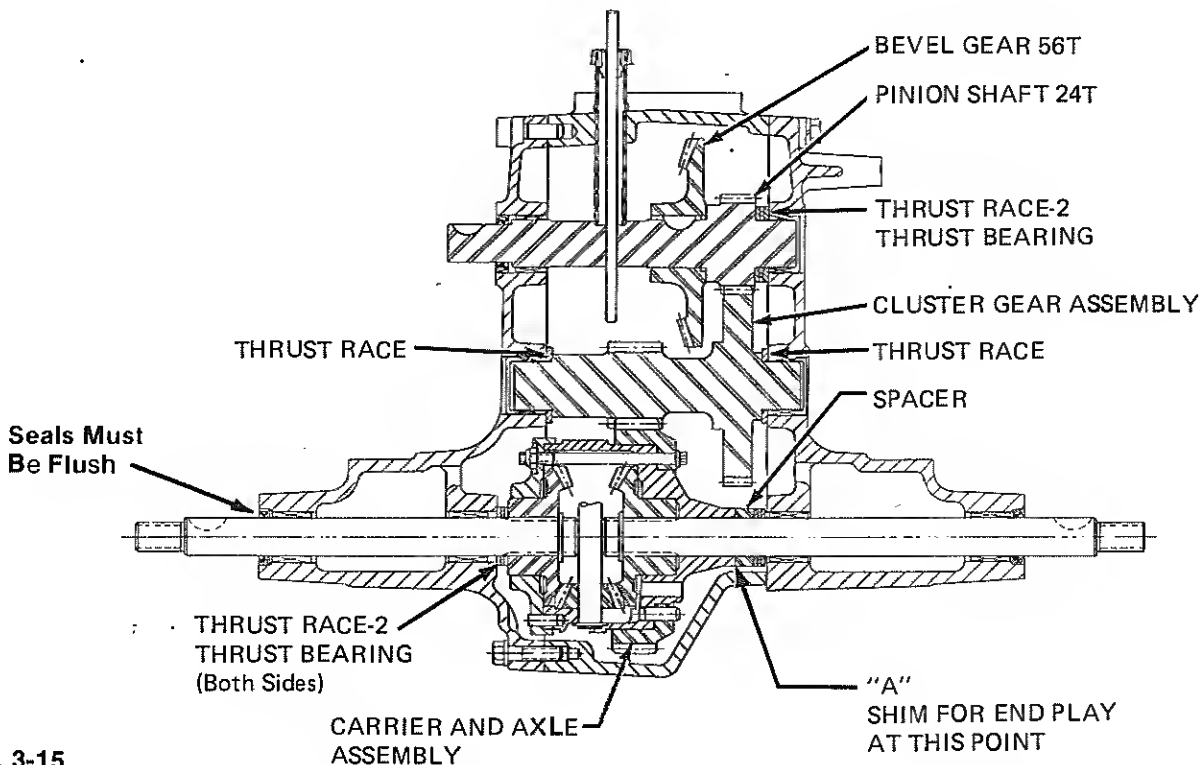

Fig. 3-15
10. Install differential carrier/axle assembly into the left side housing. Be careful not to damage axle seal when installing it in end of housig. Make sure all shims and washers are in place as they were when removed. See Fig. 3-15 for reference.
(Figs. 3-15 & 3-16)